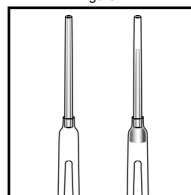

Figure 3
5. **Required for R-6001D and R-6201D only:** Pull the VACUette into a vertical position. A small portion of the collected sample should fall into the sleeve of the VACUette tip (fig. 3).